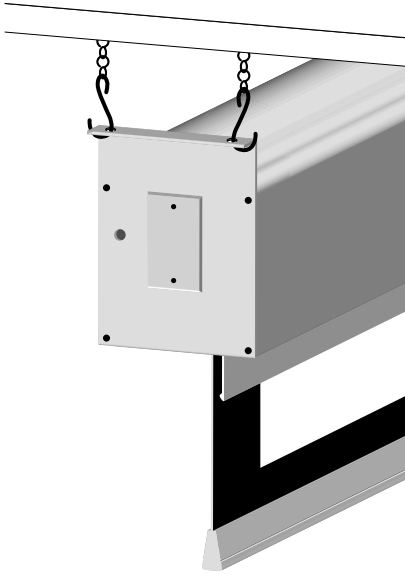

Figure 3: Suspended installation
1. Suspend the unit from the holes in the end plates on the unit using "S" hooks, chains, cables, Unistrut, threaded rod, or turnbuckles. Refer to Figure 3.